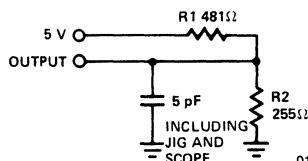

Figure 1b
6. tHZCE and tHZWE are tested with CL = 5 pF as in Figure 1b. Transition is measured ± 500 mV from steady state voltage.